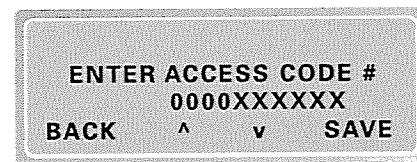

Figure 5
3. Depress and hold keys 1 and 4 Simultaneously until the screen in fig. 5 appears. Release keys 1 and 4.